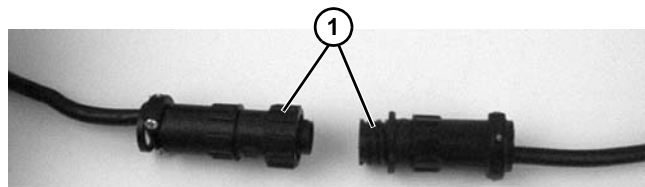

Figure 28
1. For DC variable speed motor, unplug motor cord at disconnect (**Figure 28, item 1**).